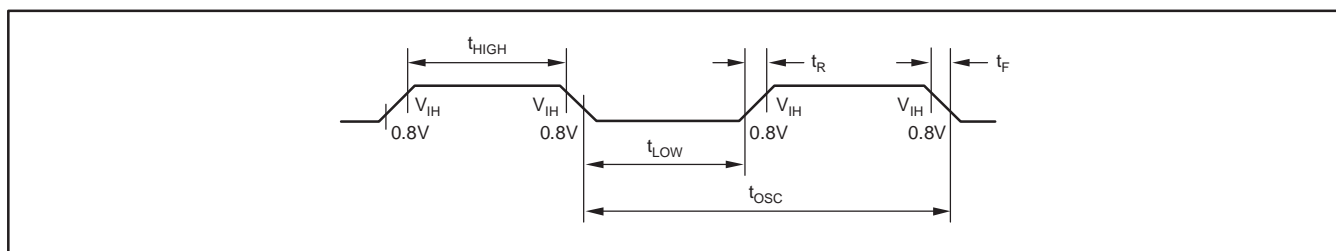

Figure 1. External Clock Drive CLK
(1) Parameters are valid over operating temperature range, unless otherwise specified.
**EXTERNAL CLOCK DRIVE CLK TIMING: SEE FIGURE 1**